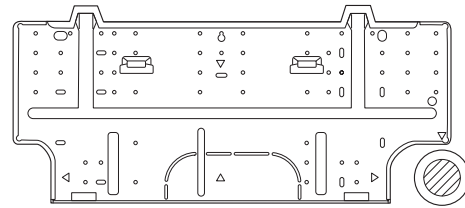

Fig. 2-162
- (1) Attach the rear panel to the wall with the 8 screws provided. (Fig. 2-162)